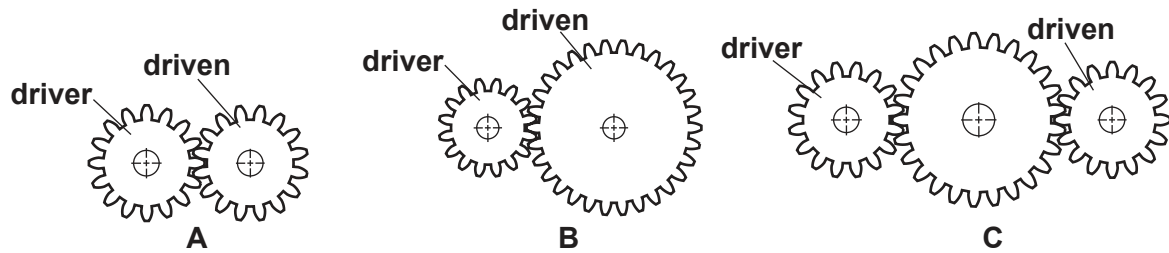

Fig. 5.1
- 5 Fig. 5.1 shows three different arrangements of spur gears.